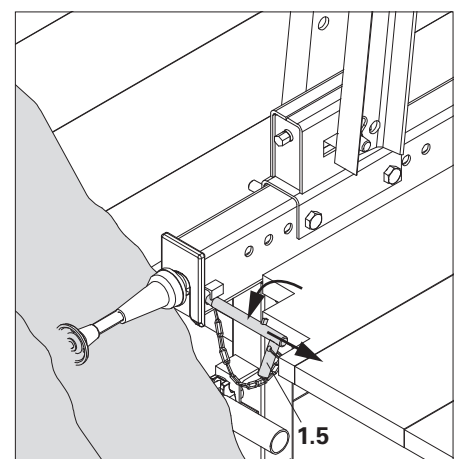

Fig. B4.01a
2. Move formwork away from the wall by means of the Adjusting Unit (2), see B3. Tilt formwork in the direction of the guardrails using the Adjustable Brace (3.1).
4. Detach wind bracing from the wall using DW 15 Tie Rod or Tension Belt CB (7) and lay on the finishing platform (8).
5. Remove mounting parts of the wind bracing (6).
8. Open concreting platform decking (10.3) above the strongback. Secure loose parts. Attach lifting gear to the strongback (4).
9. Tighten safety pins (1.5). (Fig. B4.01a)